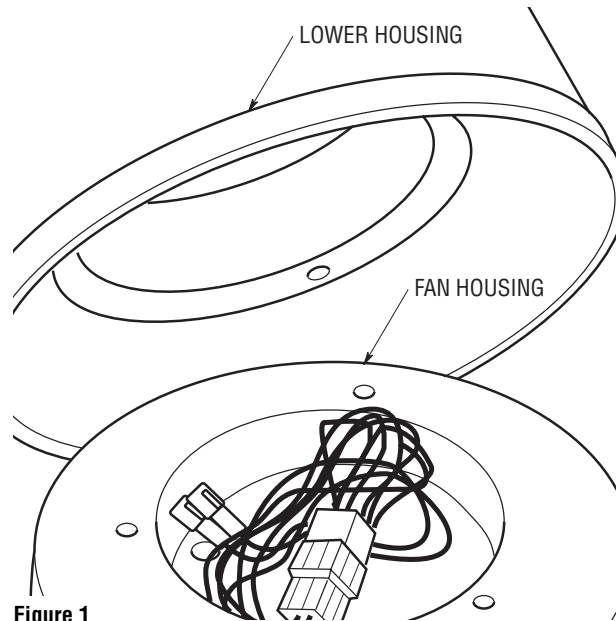

Figure 1
- 2. Position the bottom styrofoam section on a flat surface exposing the large center hole for fan motor placement. Place the fan motor housing into the hole so that the bottom of the motor is facing up. Position the lower housing over the fan motor (Figure 1). The styrofoam section will hold the assembly while you perform the following steps.